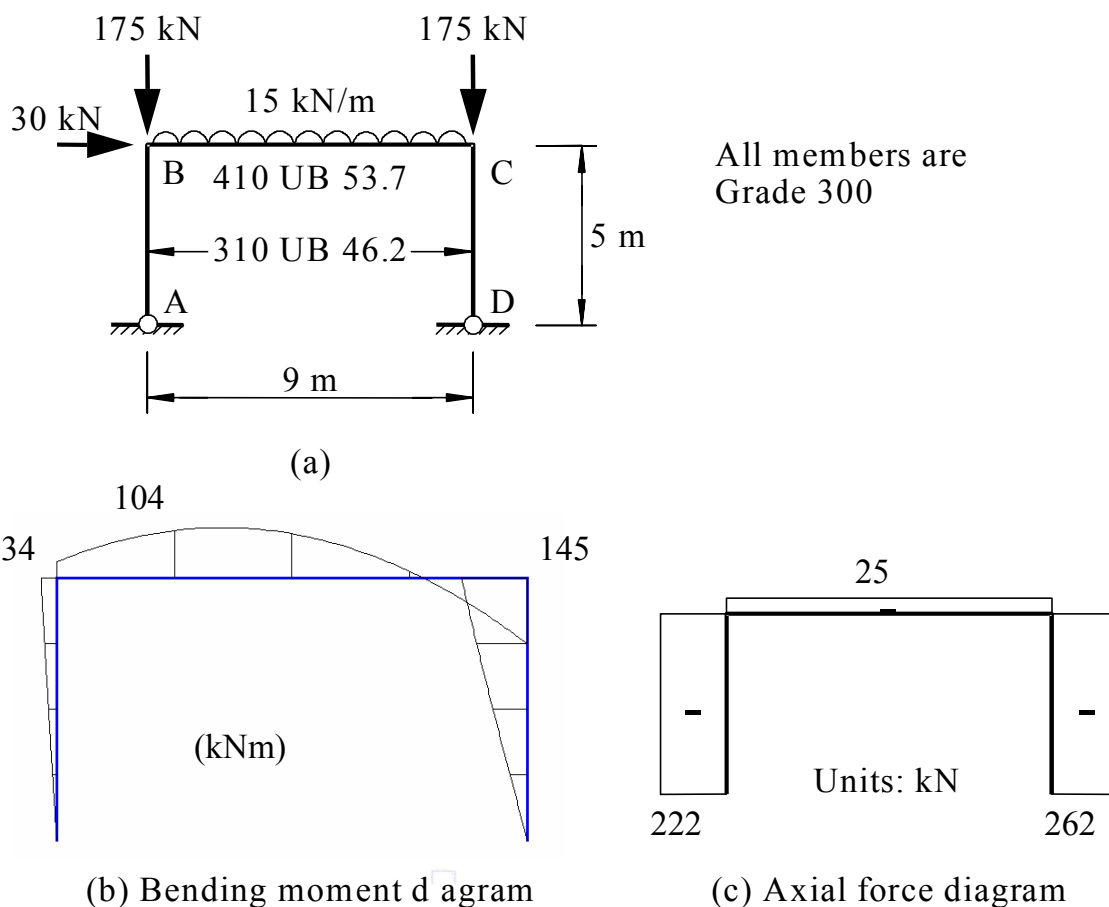

Figure 4
- b) A rectangular portal frame ABCD subjected to a design load combination is shown in Figure 4(a). All members are oriented such that the planes of the webs of the section are in the plane of the frame shown. The beam column connections are rigid, while the column base plate connections are pinned. The bending moment and axial force diagrams obtained by conducting a *second order elastic analysis* of the frame are shown in Figures 4(b) and 4(c), respectively. Each member of the frame is sufficiently laterally braced such that buckling out of the plane of the frame is prevented.